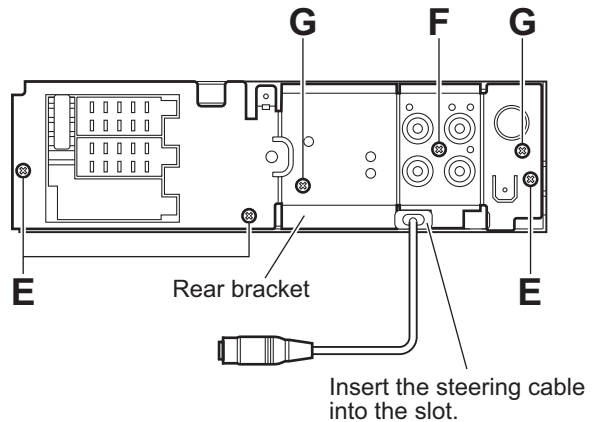

Fig.6
### 3.1.5 Removing the rear bracket (See Fig.6)
### 3.1.6 Removing the main board (See Figs.6 and 7)
- (1) Remove the three screws **E** attaching the rear bracket on the back side of the main board. (See fig.6.)